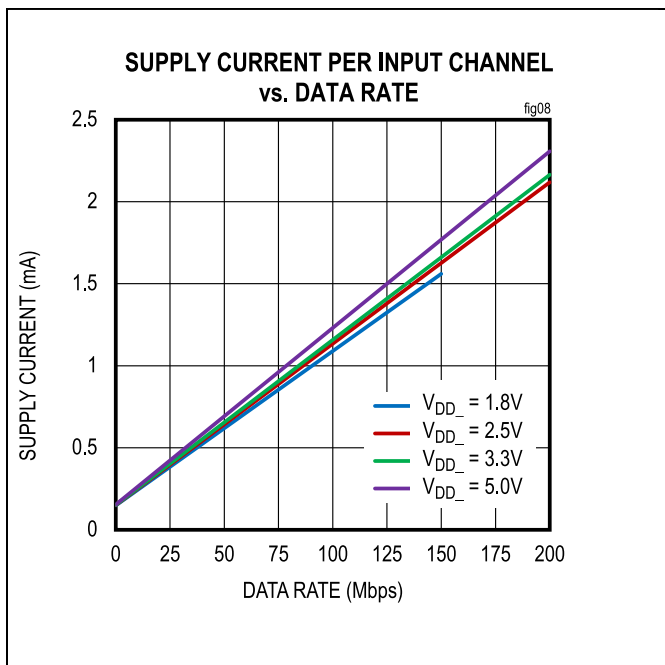
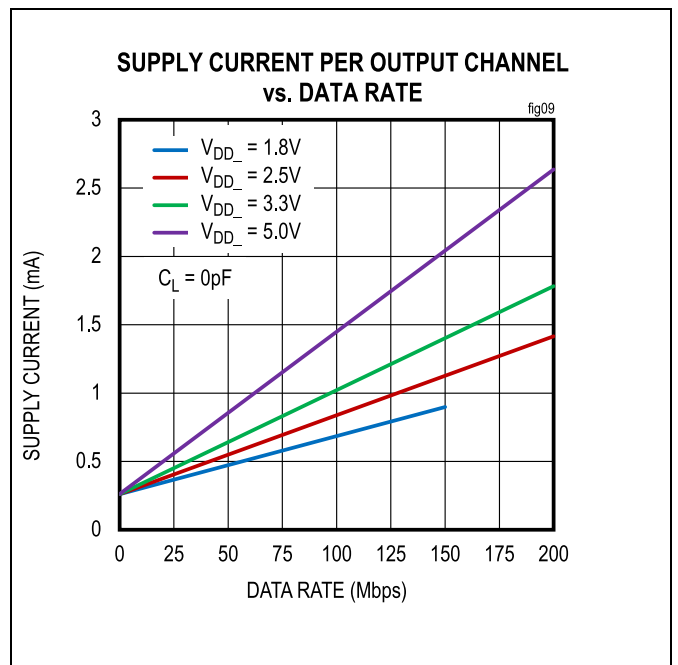

Figure 8. Supply Current per Input Channel (Estimated)
Figure 9. Supply Current per Output Channel (Estimated)
The required current for a given supply ( $V_{DDA}$  or  $V_{DDB}$ ) can be estimated by summing the current required for each channel. The supply current for a channel depends on whether the channel is an input or an output, the channel's data rate, and the capacitive or resistive load if it is an output. The typical current for input or output at any data rate can be estimated from the graphs in Figure 8 and Figure 9. Note that the data in Figure 8 and Figure 9 are extrapolated from the supply current measurements in a typical operating condition.
The total current for a single channel is the sum of the no-load current (shown in Figure 8 and Figure 9), which is a function of voltage and data rate, and the load current, which depends on the type of load. Current into a capacitive load is a function of the load capacitance, the switching frequency, and the supply voltage.
- Channel 1 is an output channel operating at 2.5V and 100Mbps, consuming 0.84mA, estimated from Figure 9.
- Channel 2 is an input channel operating at 2.5V and 20Mbps, consuming 0.35mA, estimated from Figure 8.
- Channel 1 is an input channel operating at 3.3V and 100Mbps, consuming 1.16mA, estimated from Figure 8.
- Channel 2 is an output channel operating at 3.3V and 20Mbps, consuming 0.41mA, estimated from Figure 9.